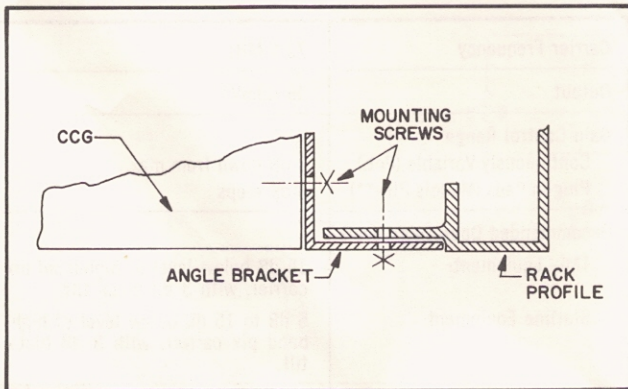

Fig. 2. Angle Brackets installed for chassis top to be flush with rack front.
2. The two angle brackets may be installed on the generator chassis either for flush-mounting the chassis top or for flush-mounting the chassis bottom. Figs. 2 and 3 illustrate both ways.